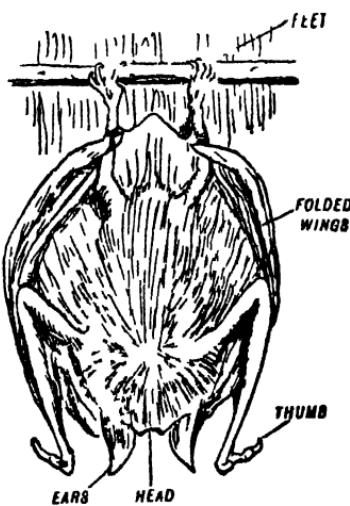

Fig. 151 A Bat asleep.
**Bats** are very similar to the Insect-eating Mammals, but they are put into a group by themselves because they can fly. Each wing is made of skin which stretches between the four very long fingers of the hand, and the side of the body. The thumb alone is not part of the wing, and ends in a hook-like nail. When asleep, Bats hang downwards by the claws of their feet (Fig. 151). They sleep in a dark corner during the day. Bats have very poor sight, but the skin on the face is very sensitive to the movement of the air, so that they can avoid obstacles even when flying in darkness.